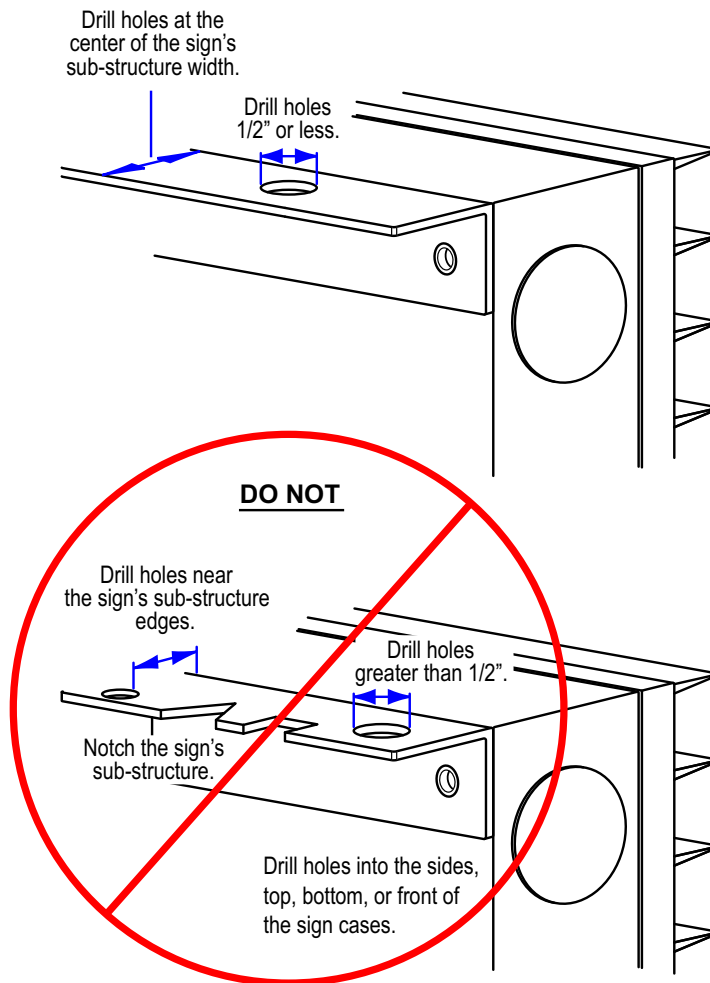

Figure 26.Drilling guidelines
- **DO NOT** modify the sign or sign’s sub–structure for ventilation purposes (see Figure 26 on page 32). The super–structure design **MUST** incorporate adequate ventilation.